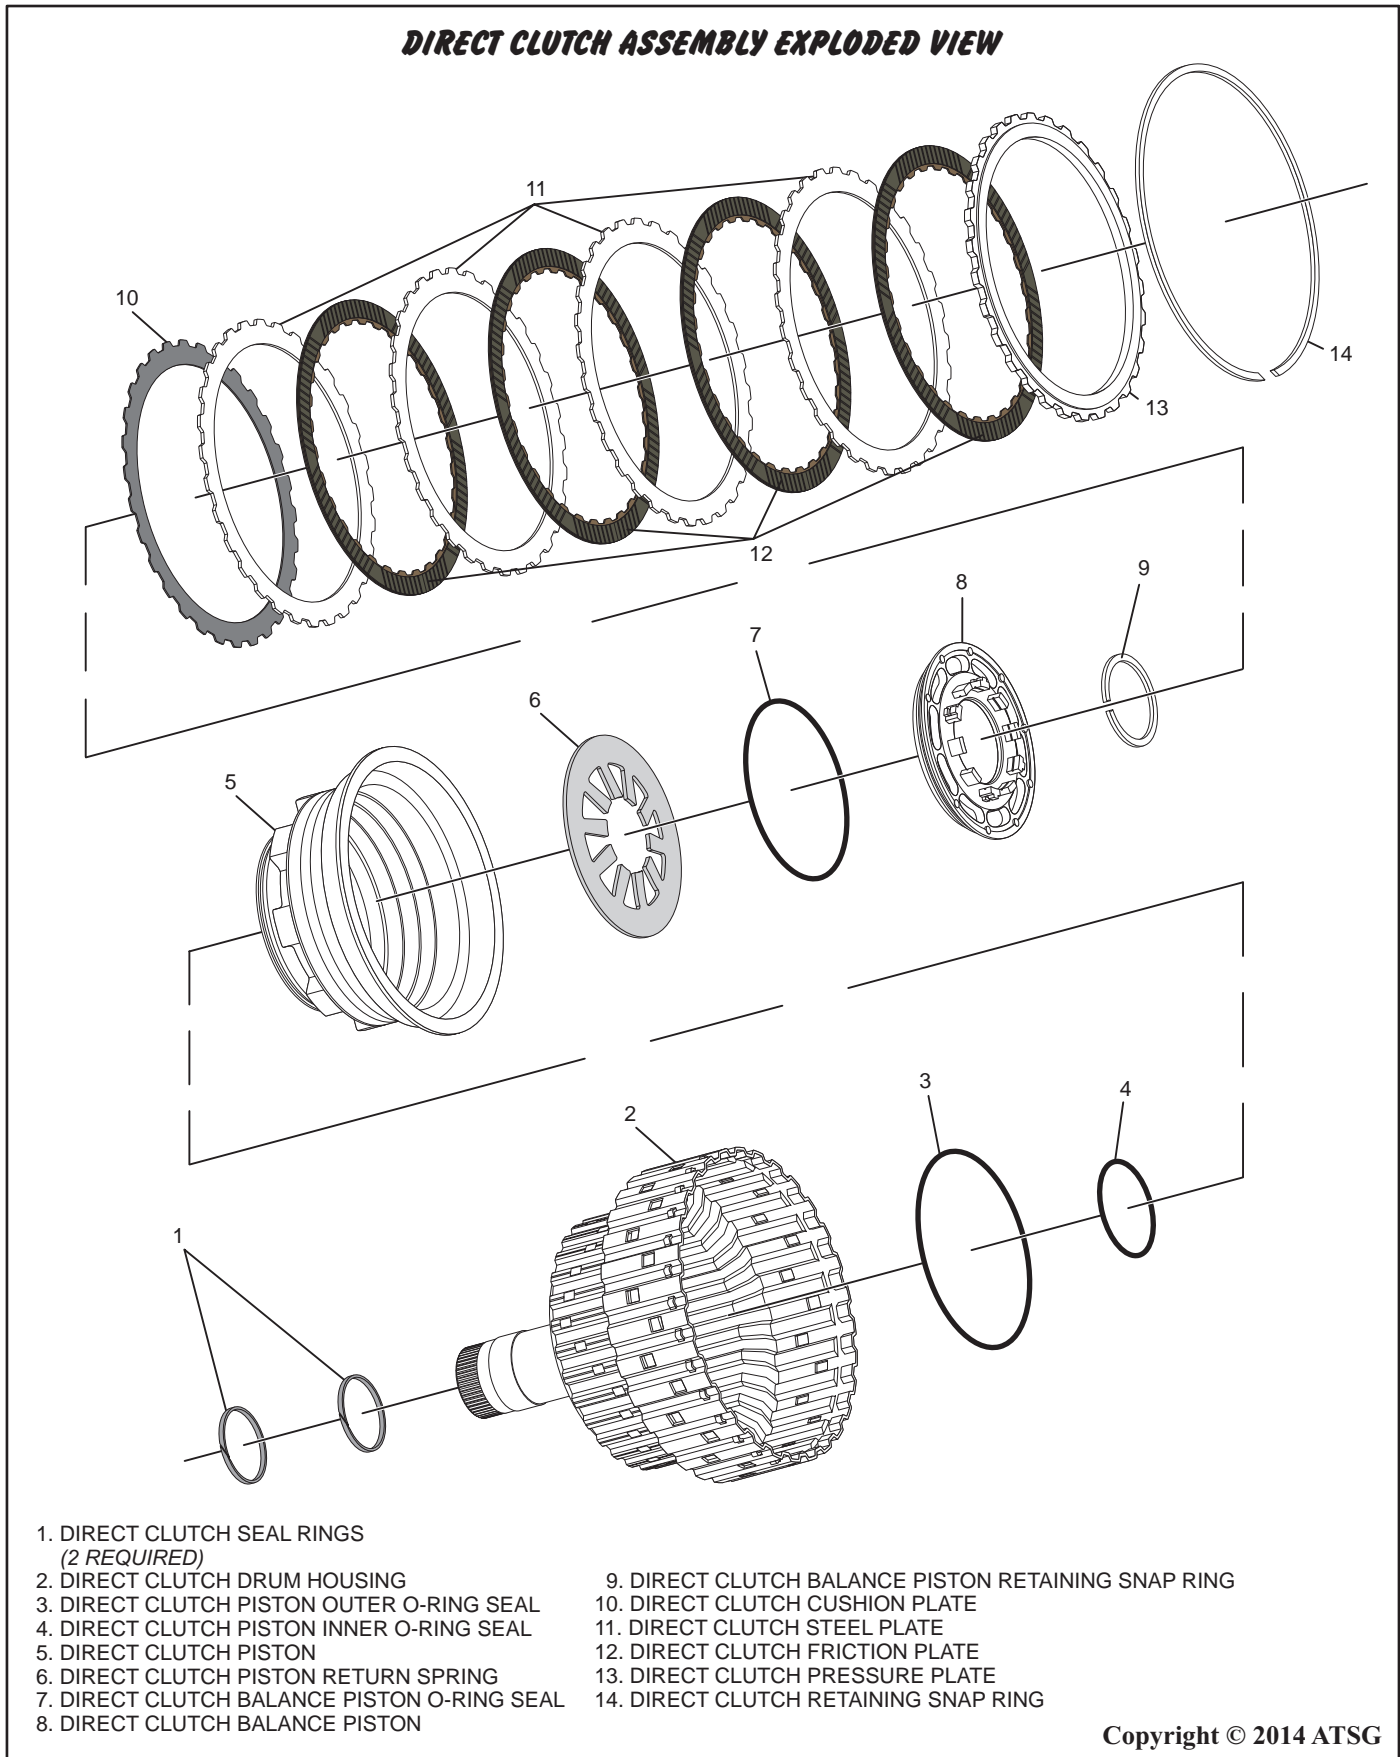

Figure 98
1. Disassemble the direct clutch drum housing using Figure 98 as a guide.